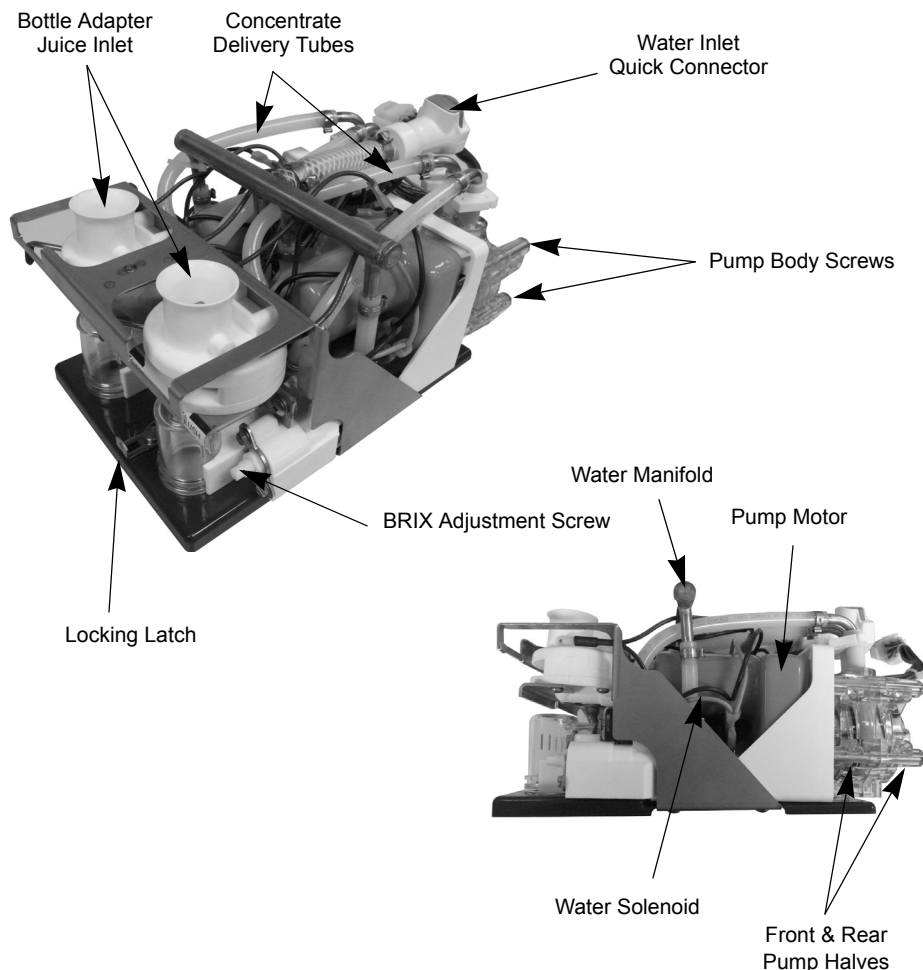

Figure 14. Interior Details
4. Unplug the water line quick disconnect by pressing the gray button (See Figure 14).
5. Slide the locking latch forward. Lift the platform slightly and pull forward to gain access to the electrical connector (see Figure 14).
6. Unplug the electrical connector by squeezing the locking tabs on either side and pulling out the connector. Lift and remove the pump platform (see Figure 14).
1. Remove the two white plastic hose clamps from the pump tube connections (See Figure 14) and remove the concentrate delivery tubes from the hose ends.